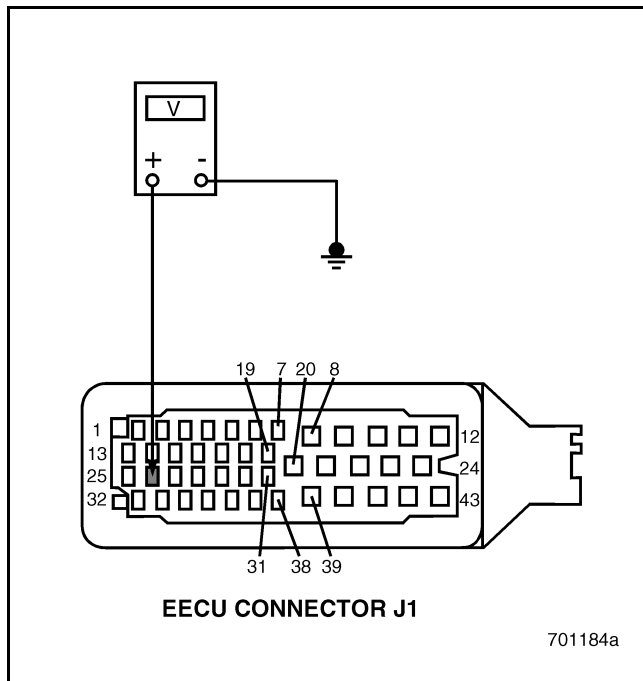

Figure 45
2. Disconnect the Fuel Temperature (FT) Sensor connector.
4. Measure the voltage between EECU connector J1 pin 26 and a good ground (see Figure 45).